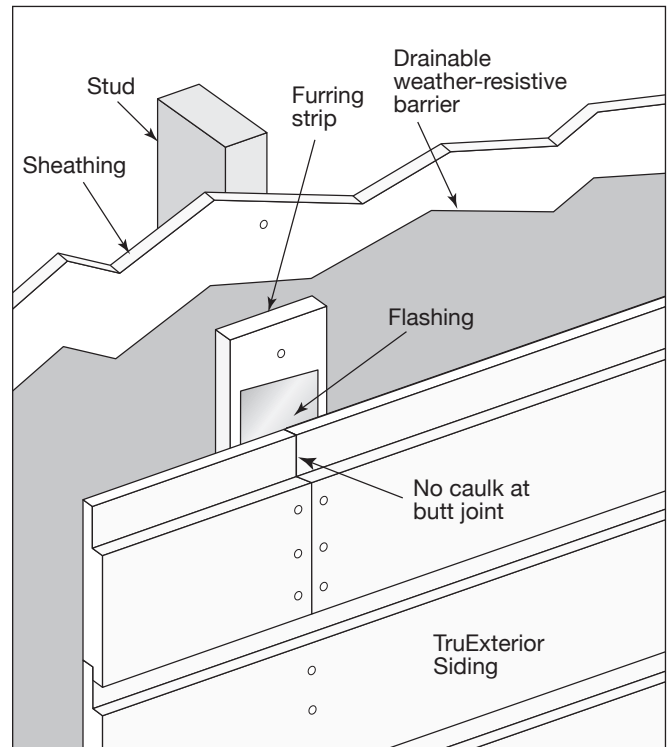

Fig. 55
- For 10" profiles, 3 fasteners must be used through the face of the siding at each furring strip (**Fig. 55**)